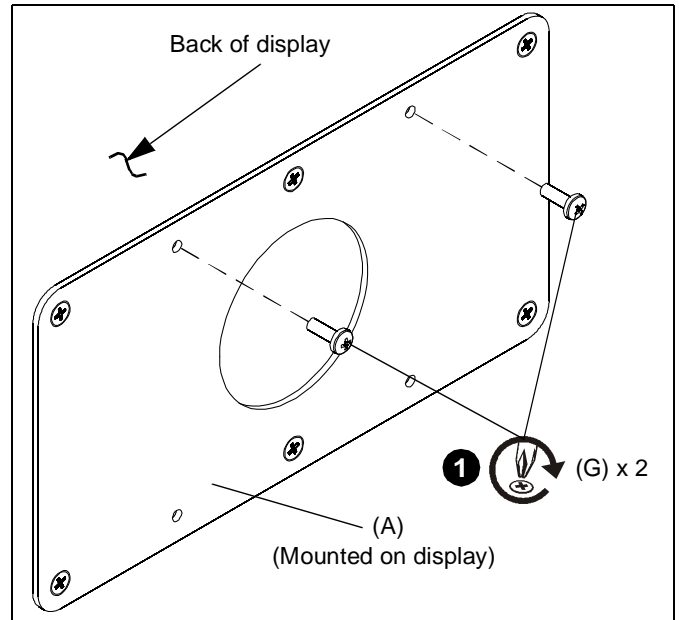

Figure 6
1. Assemble two M4 x 20mm Phillips pan head upper mounting screws (G) into interface bracket (A). (See Figure 6)